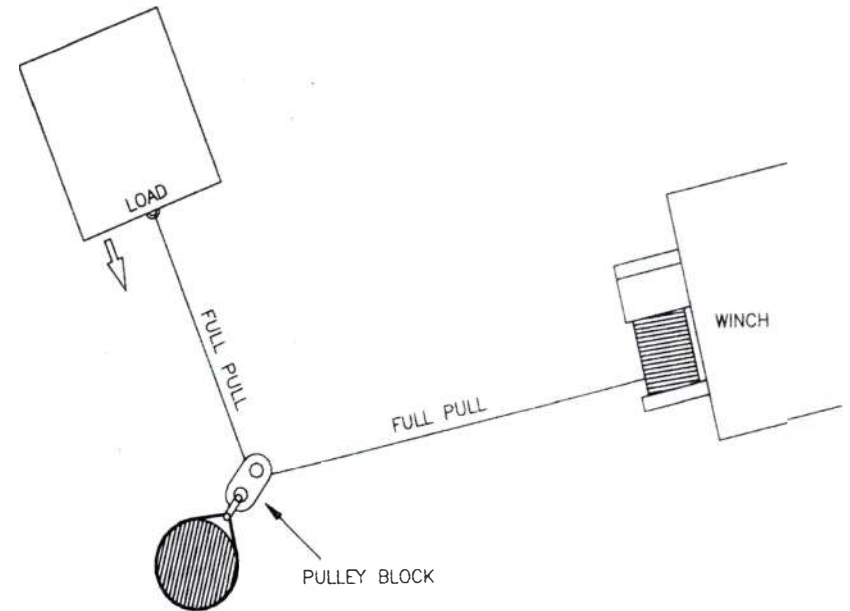

Figure 20
5. Figure 20 illustrates the use of a pulley block to change the direction of the pull. Mechanical advantage can be obtained by attaching a pulley block to the nylon sling with a shackle and running the metal or synthetic rope to the anchor point.